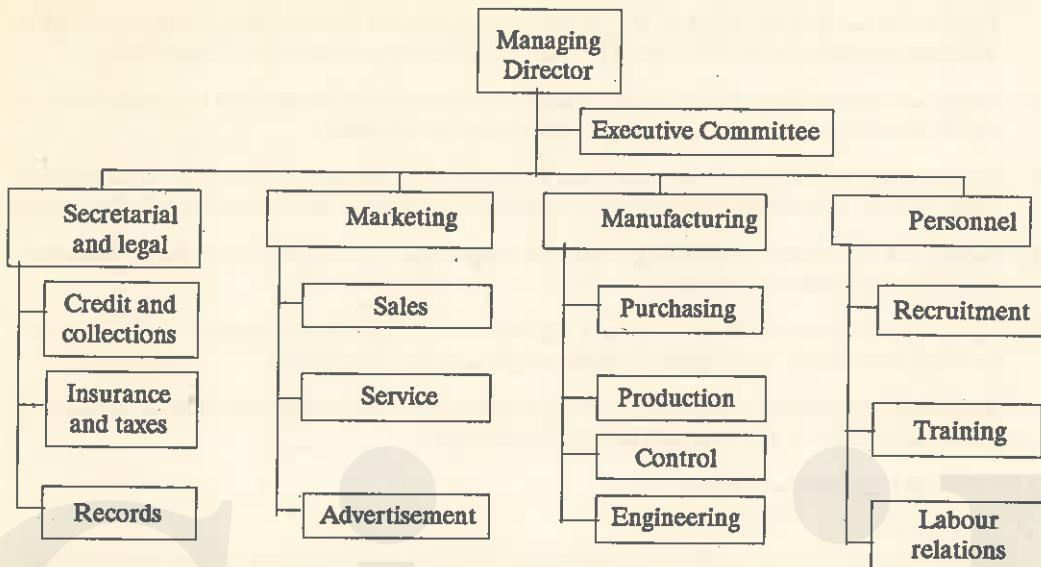

Fig. 3.2. Organisation chart.
- Organisation chart which is also known as *organisation tree* is nothing but a map or drawing of the organisation. Fig. 3.2 shows an organisation chart.